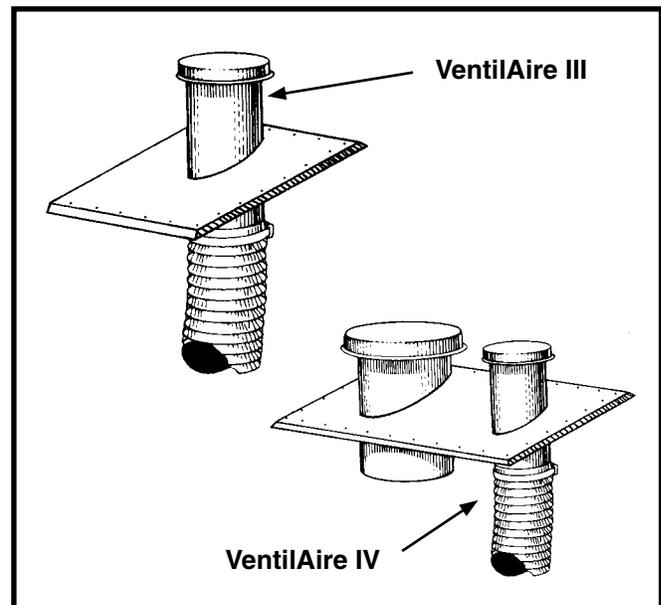

Figure 5. VentilAire III & IV
The VentilAire air quality accessory packages are available to meet the ventilation requirements as outlined in H.U.D. Standard Part 3280.103 (b) (2). These packages introduce outdoor air into the living space during furnace blower operation. The VentilAire IV also serves to exhaust moist and/or hot air from the attic space. See **Figure 5** for typical installation. Complete installation instructions are supplied with each air quality package.